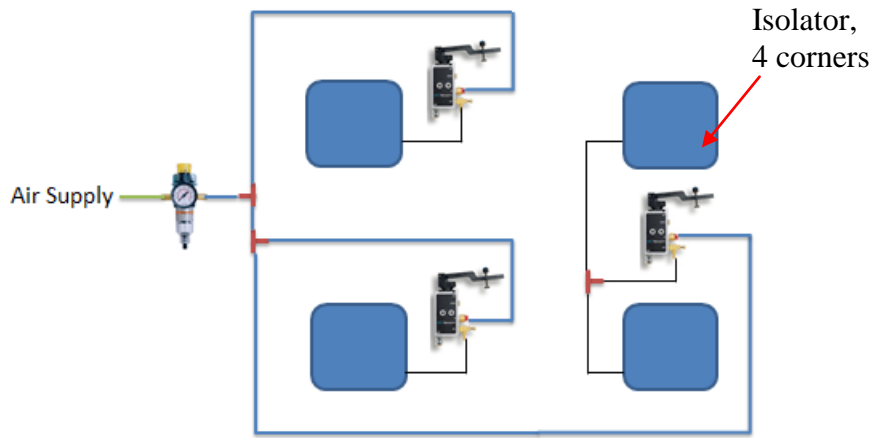
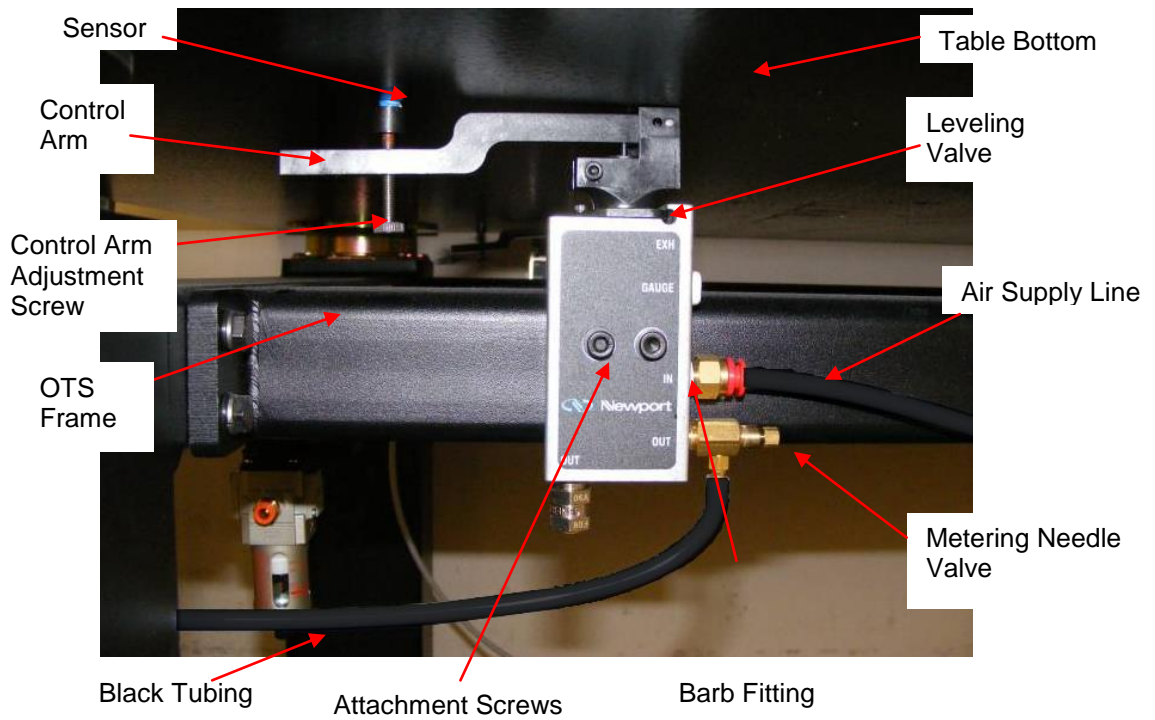
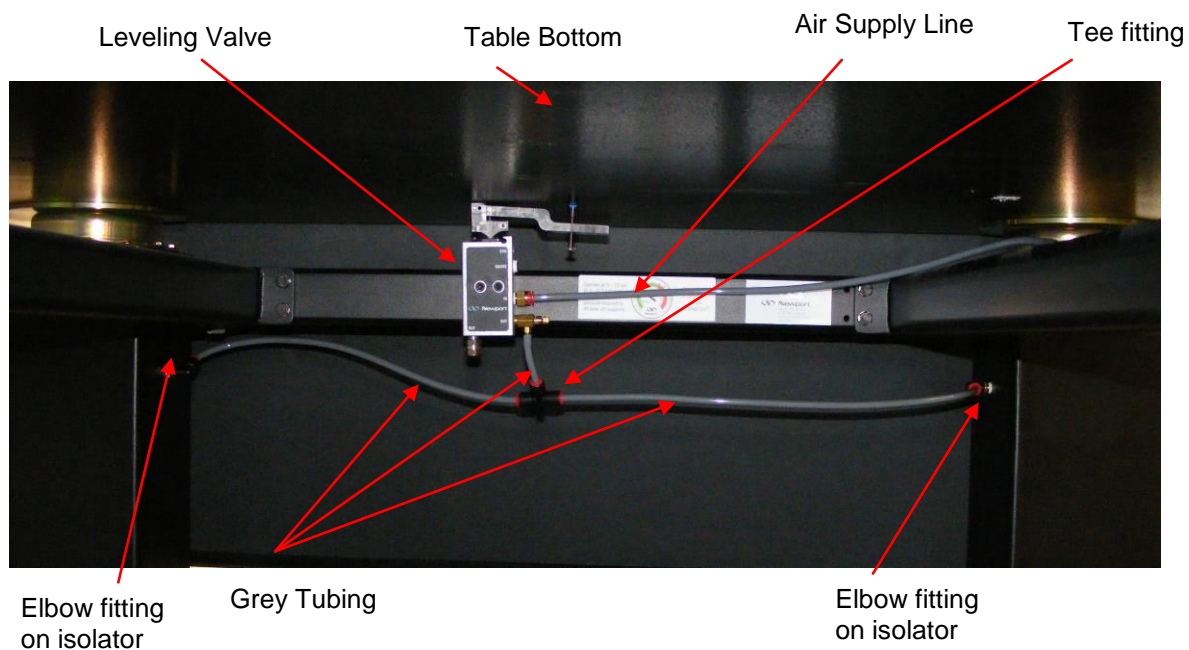

Figure 11
Figure 12
Figure 13
The IPV leveling valve is shown in Figure 12. Three valves are used in all systems as only three points are required to determine a plane. The leveling valve locations are selected such that they form the largest triangle possible under the table. The larger the triangle, the more stable the system will be. When two or more isolators are controlled by the same valve, they act as a single large isolator supporting the table at the center of force of the several isolators. The floating height of the system is determined at the valve position.
Connect air lines to the isolators as shown in Figure 11, Figure 12 and Figure 13. When cutting tubing, be sure the ends are round and cut squarely. This is best done with a single edge razor blade (scissors will deform the tubing, causing leaks). The connections are detailed in Figures 11, 12 and 13.
1. Close the metering needle valve (Figure 12) on each isolator then open it ½ turn.
2. Adjust the control arm adjustment screw of each valve (Figure 12) as required to obtain this gap. When all isolators are adjusted, re-check the level of the payload. NOTE: this step should require only minor adjustments. Do not move the small set screw near the pivot of the valve control arm.